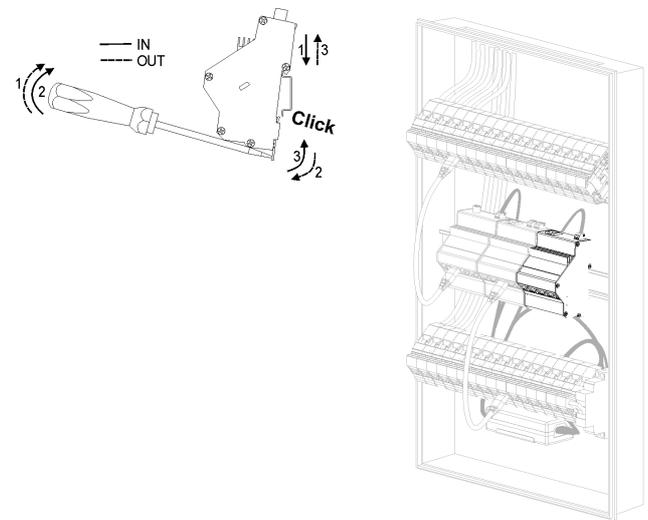

Figure 1: Installation on DIN-Rail
1. Open the 'Comm Center Cabinet' and fix the unit on the DIN-Rail (See Figure 1).